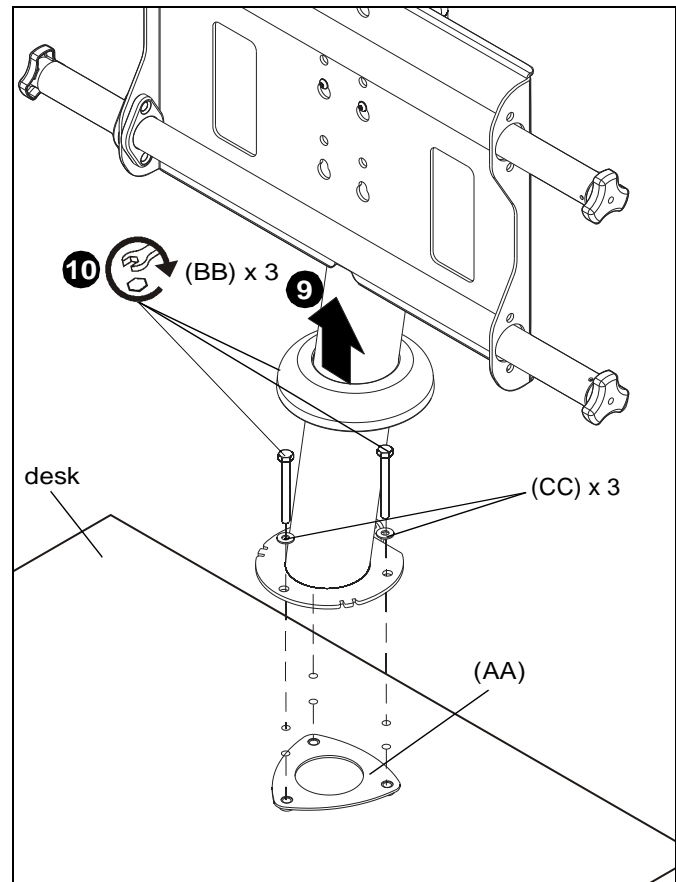

Figure 3
9. Lift base cover up to expose mounting holes on table stand (R). (See Figure 3)
10. Use three 1/4-20 x 2 1/2" tapping bolts (BB), three 1/4" washers (CC) and clamping plate (AA) to secure table stand (R) to table. (See Figure 3)